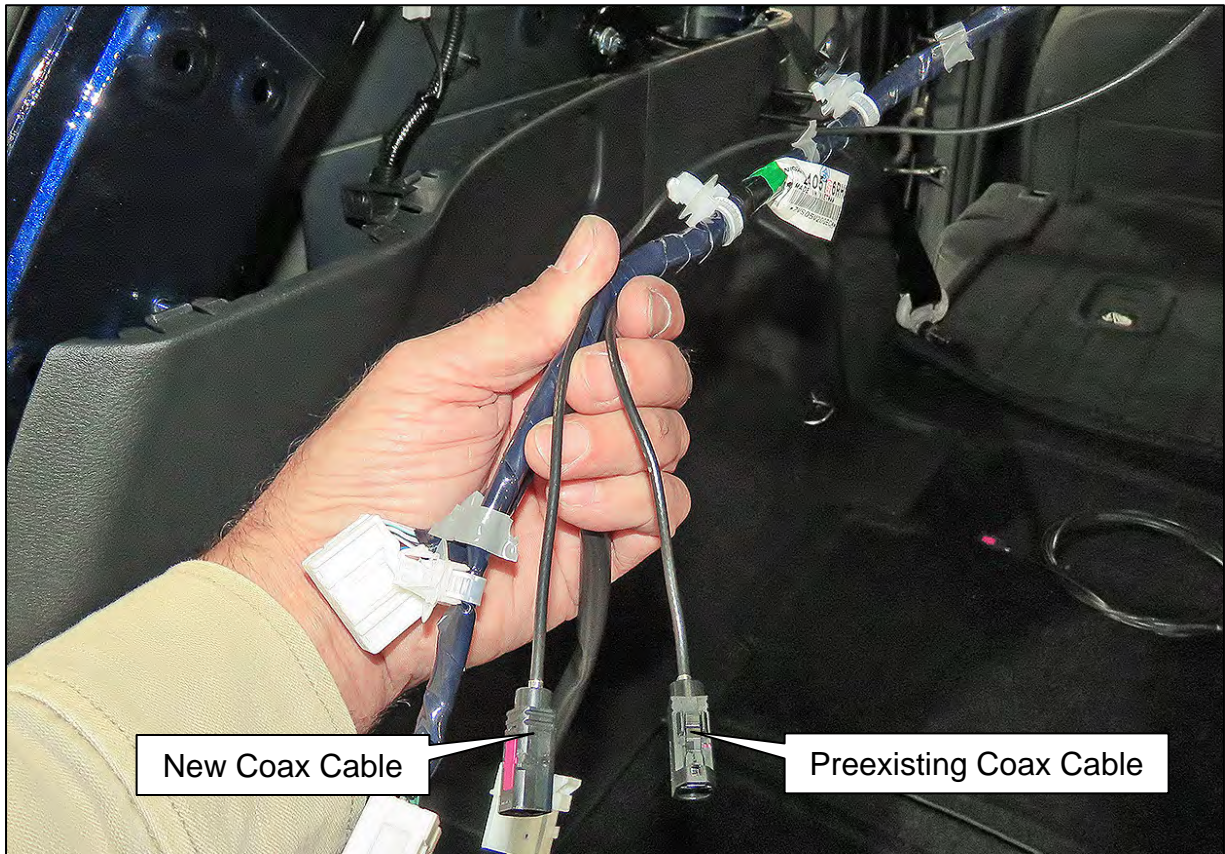

Figure 15
26. Pull the Coax Cable through the weather boot until its length equals the preexisting Coax Cable (Figure 15).